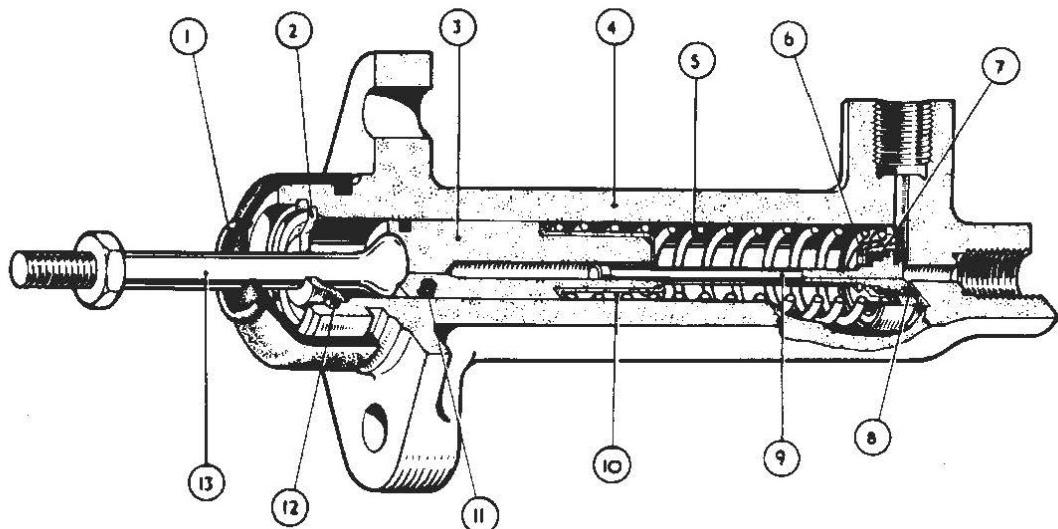

FIG 1.
When reconditioning a brake master cylinder of the type shown in Fig.1. attached, the following procedure should be adopted.
- (1) Remove the dust excluder from the head of the master cylinder.
- (2) Remove the circlip (using circlip type pliers if available, alternatively, round nose pliers may be used). This will release the push rod complete with dished washer.
- (3) Withdraw the piston and valve assembly complete with springs and supports.
- (4) Discard the piston and valve assembly (items 3, 5, 6, 7, 8, 9, 10 and 11 on Fig.1) and the circlip (12).